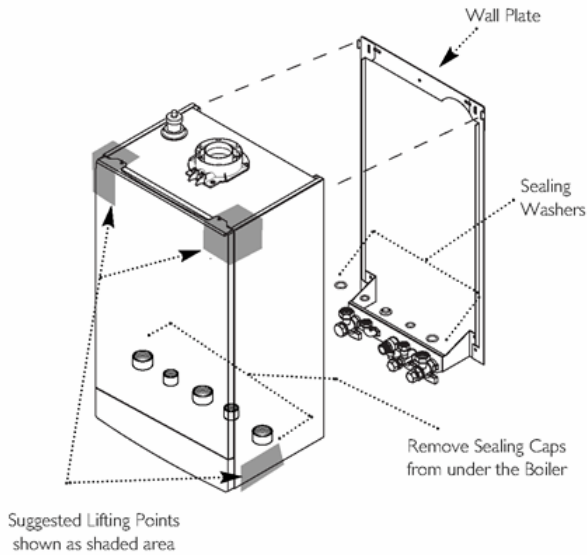

Fig. 43
1. Lift the boiler using the Lifting Points as shown by the shaded areas (Fig. 43). The boiler should be lifted by TWO PEOPLE. Engage the slots at the top rear of the boiler on the wall plate (Fig. 43) (see Safe Manual Handling).
2. Ease the boiler forwards and remove the sealing caps from the boiler connections (Fig. 43).